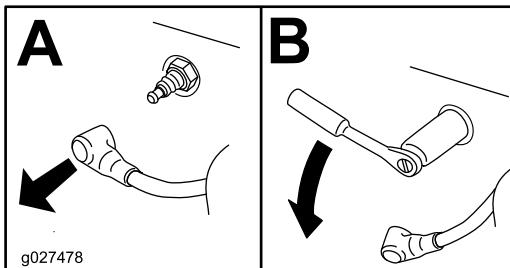

Figure 40
- Remove the spark plug (Figure 40).